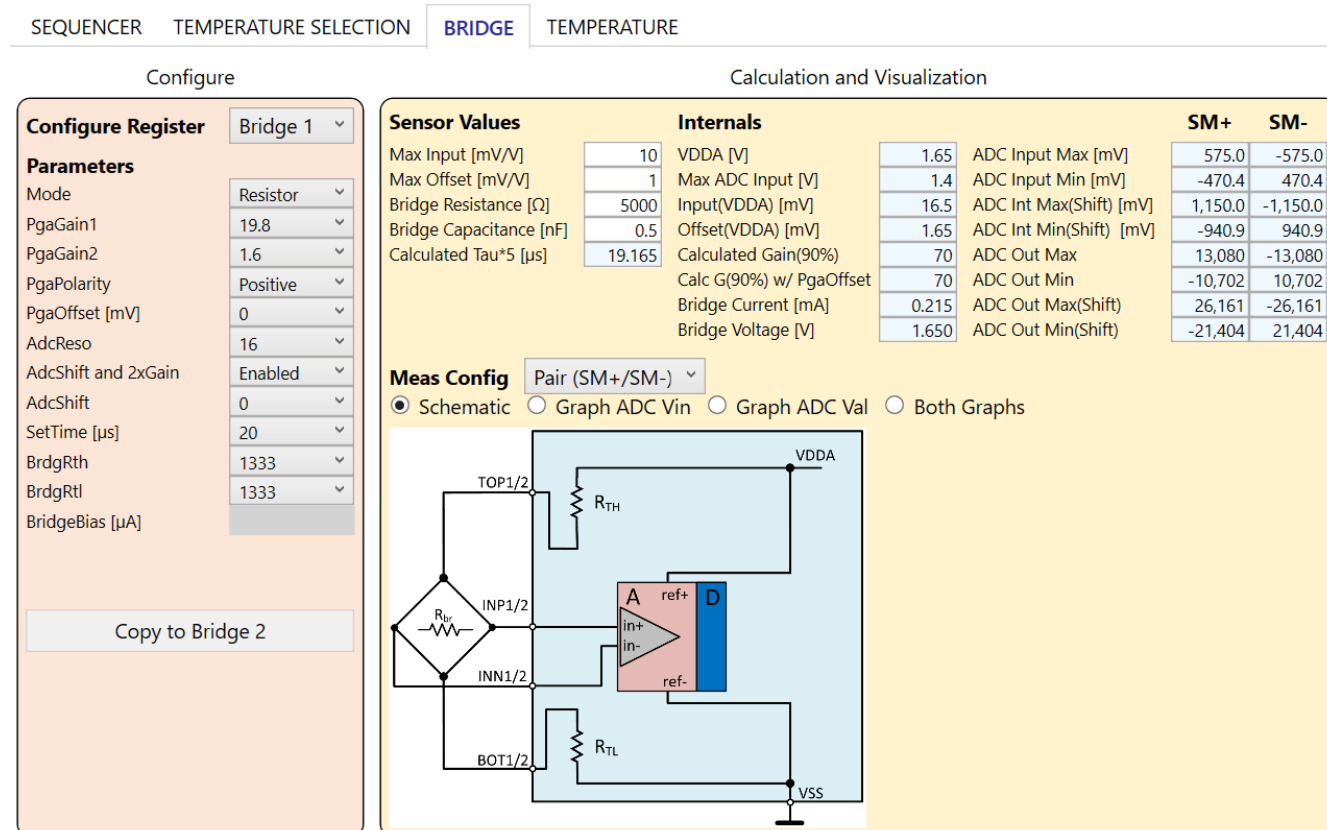

Figure 66. Resistor Mode
- Resistor: internal voltage supply (VDDA, refer to ZSSC3281 Datasheet document) with configurable internal series resistors, see Figure 66.